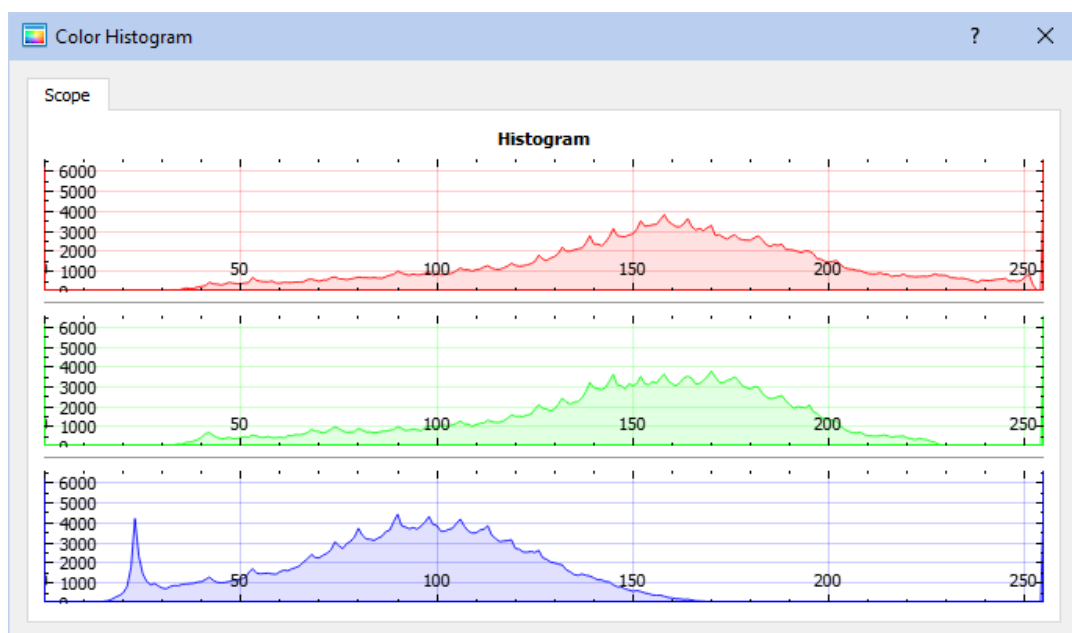

Figure 26 – Color Histogram window
- If the cameras were configured to an RGB mode, three histograms would be displayed, showing the color segmentation for each color (red, green, blue). An example is shown in Figure 26.